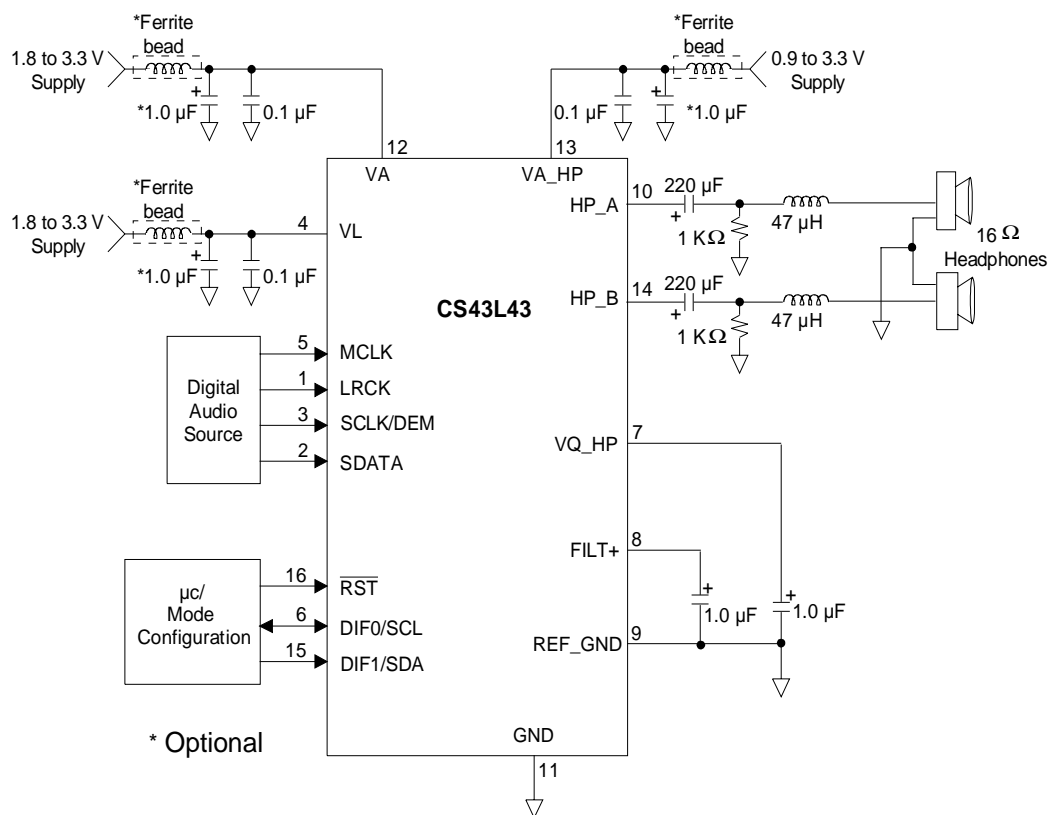

Figure 5. Typical Connection Diagram
8. Valid with the recommended capacitor values on FILT+ and VQ_HP as shown in Figure 5. Increasing the capacitance will also increase the PSRR. NOTE: Care should be taken when selecting capacitor type, as any leakage current in excess of 1.0 μA will cause degradation in analog performance.